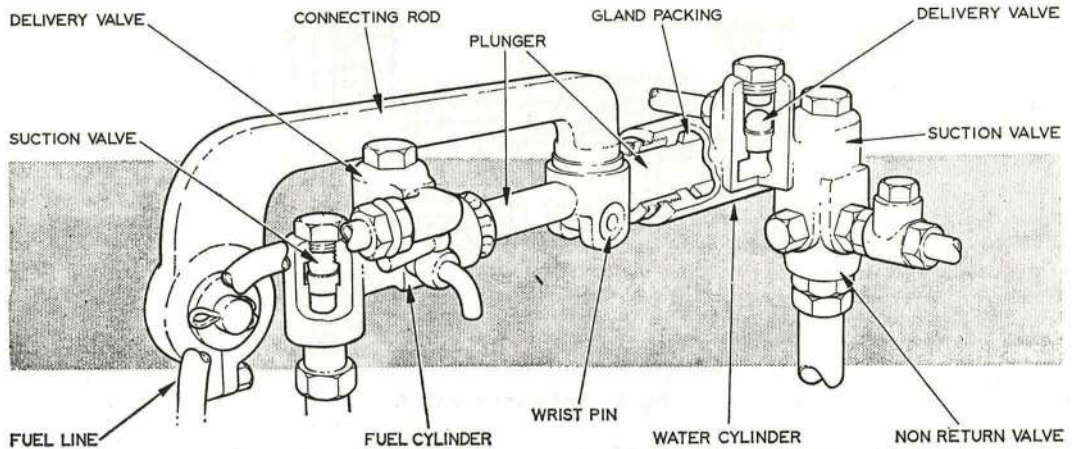

Fig. 4. DUPLEX PUMP
14. The duplex pump (Fig. 4) is, in effect, two separate pumping units. It consists of two horizontally opposed cylinders, one slightly larger in diameter than the other, a plunger that is common to both cylinders and a connecting rod. Both pumps are bolted to a frame mounted on an adjustable bearer. The smaller diameter pump, which has a capacity of 35 gallons per hour, is the fuel pump; the larger diameter pump is the water pump, and this has a capacity of 95 gallons per hour.